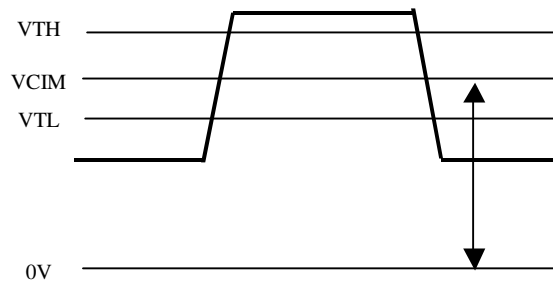

Figure 2 : LVDS Differential Voltage
- Measurement of LVDS differential voltage is shown in Figure 2.